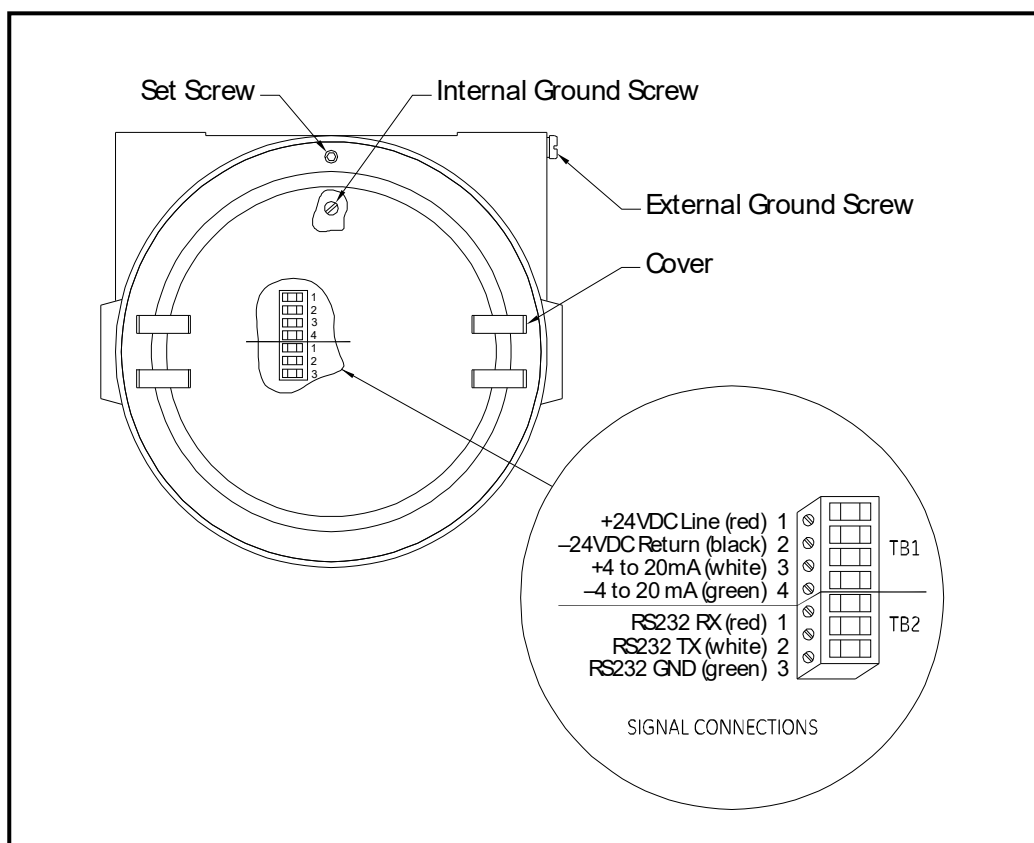

Figure 4: Wiring Connections to the XMO2 TB1/TB2 Block
4. Unplug terminal block TB1/TB2 on the XMO2 transmitter PC board (PCB) by carefully pulling it directly up without bending the pins attached to the PCB. (See *Figure 4* on page 8.)